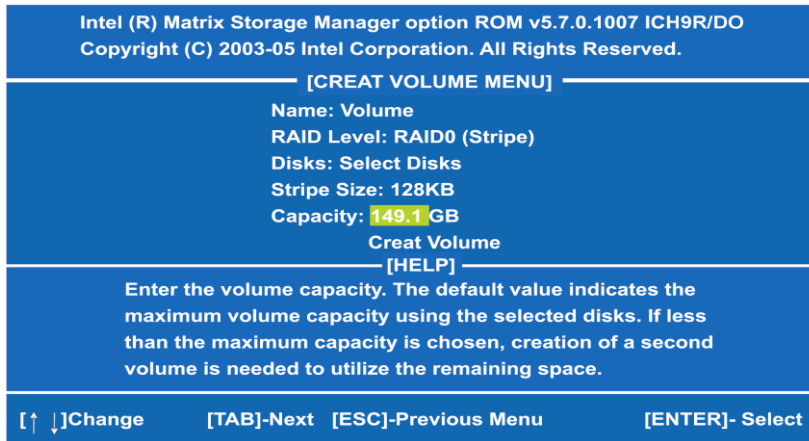

Figure 7
- (3)-5 After setting all the items on the menu, select Create Volume and press ENTER (as Figure 7) to start creating the RAID array.